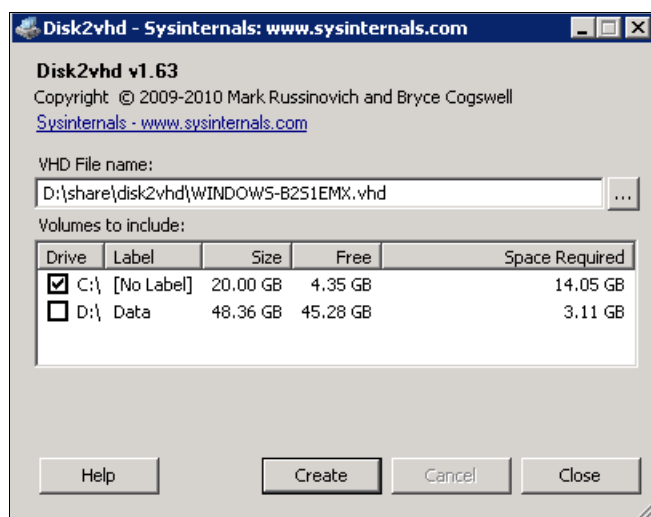

Figure 3-8 Disk2vhd: Select a volume
2. Start the Disk2vhd tool on the source physical machine. Select the volumes (C:\ in Figure 3-8) that you want to migrate. Document the target path to which you want to migrate the image file. Click **Create**.